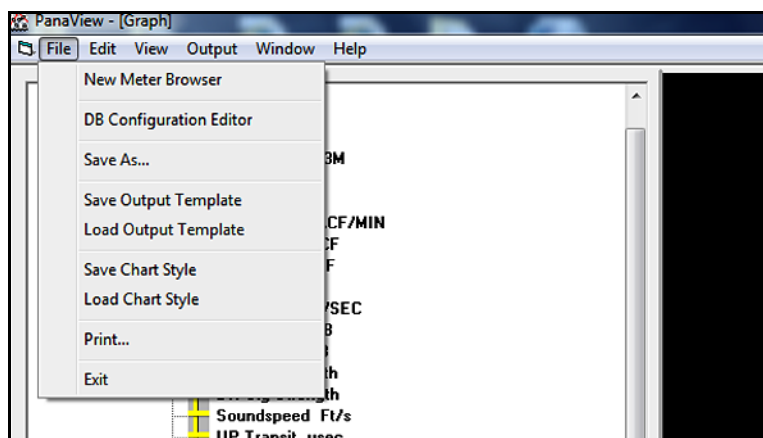
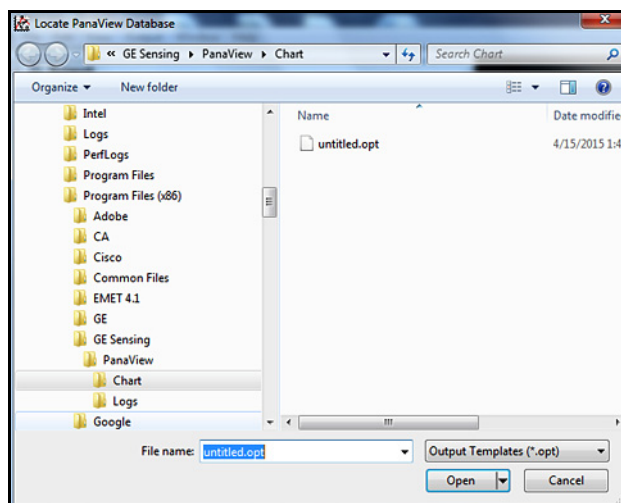
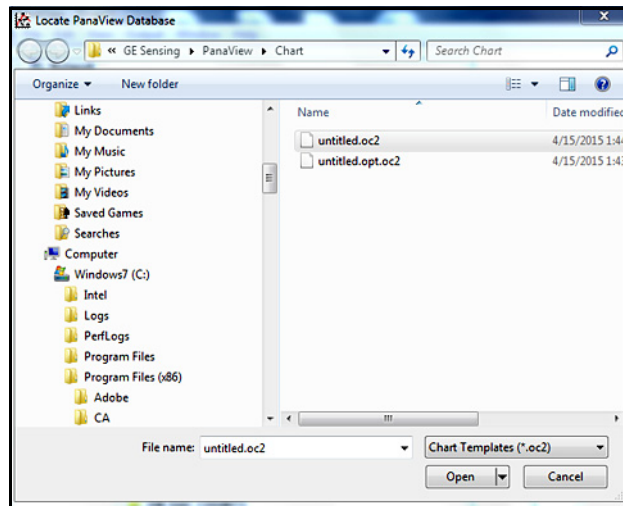

Figure 64: The File Menu for Graphs
Figure 68: Opening an Output Template
Figure 69: Opening a Chart Style Template
After setting up a chart (graph), as described in the previous section, you will find that several new menu options are now available in the “File” menu (see Figure 64 below).
- Open the “Output” menu and click “Graphing - From Template” option (see Figure 60 on page 51) or open the “File” menu and click “Load Output Template” option (see Figure 64 on page 57). If any output templates (*.opt) have been saved, select the desired file in the dialog box shown in Figure 68 below. Then, Click [Open] button to load the properties and parameters to be graphed from the output template selected.
- Open the "File" menu and click "Load Chart Style" option (see Figure 64 on page 57). If any chart templates (*.oc2) have been saved, select the desired file at the dialog box shown in Figure 69 below. Then, click the [Open] button to load the graph properties from the output template selected.